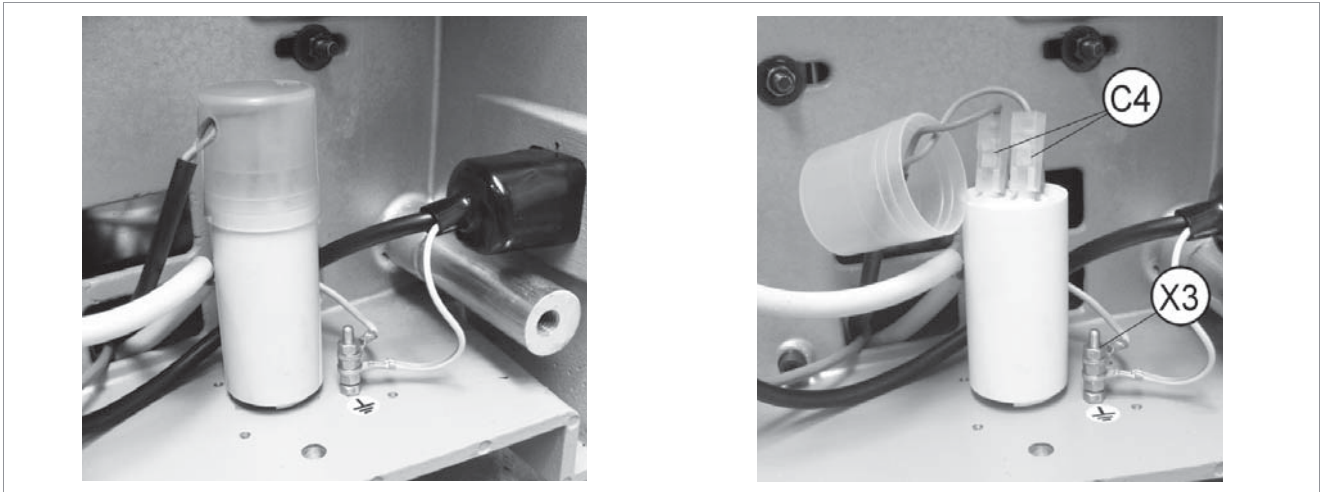

Fig.75
- 2) Remove the condenser cap and disconnect the 2 connectors (C4) (Fig.75) observing their position carefully.